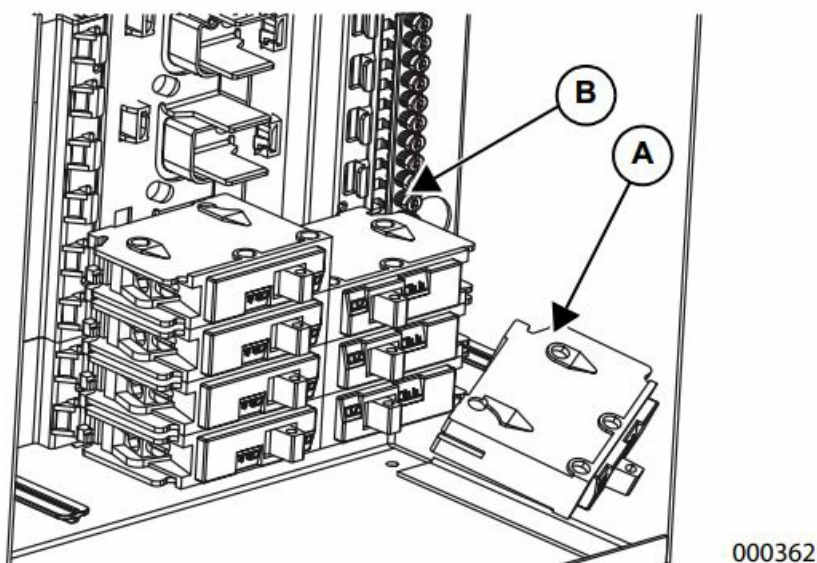

Figure 3-2. Installing Breakers
3. Install the front cover of the transfer switch with four (4) screws provided. See Figure 3.2.